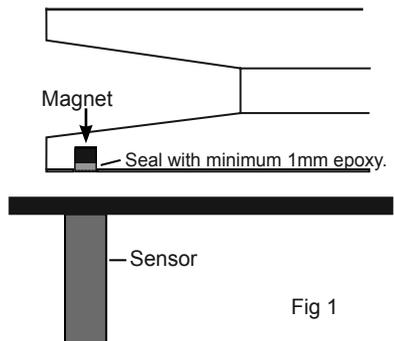

Fig 1
**Magnet Fit:** If your chainwheel is not predrilled, drill a hole 6.5mm (1/4") diameter and 5mm (3/16") deep to fit the magnet in the underside of a spoke in the bottom of the chainwheel. The magnet must be aligned with the sensor. See Fig 1.